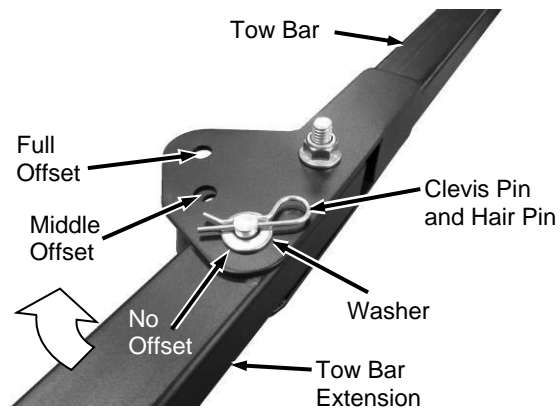

Figure 41
1. Remove Hair Pin, Washer, and Clevis Pin that secures Tow Bar Extension to Tow Bar (Figure 41).